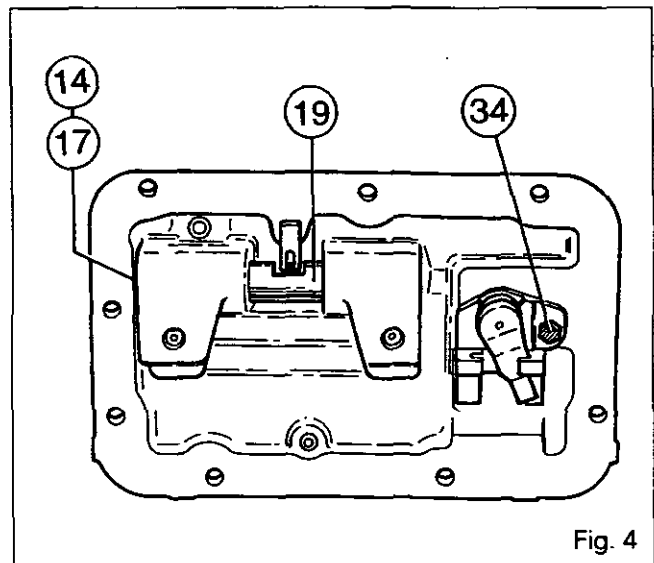

Fig. 4
23. Remove the bolt (34) (Fig. 4). Remove the gearshift control assembly.
24. Remove the cups (38) and (40), and the spring (39).
25. Separate the finger (36) from the rack (35). Remove the cup (41) and the spring (42).
26. Extract the seal (37).
27. Remove the circlip (14) and the plug (17). Take out the piston (19) (Fig. 4).